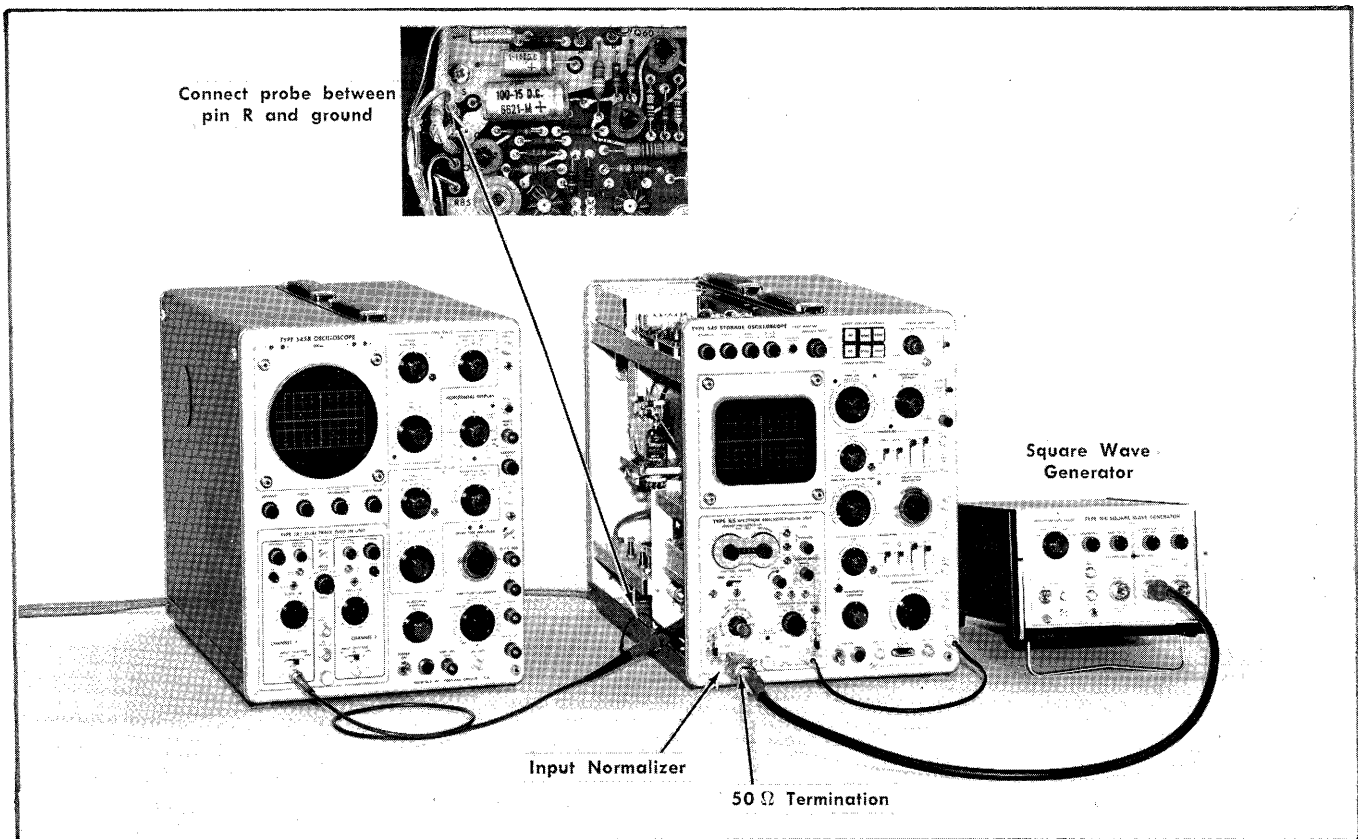

Fig. 6-16. Equipment setup for attenuator (VOLTS/CM) compensation adjustments.
①
- a. Equipment setup is shown in Fig. 6-16.
- b. Connect a properly compensated 10× probe from the test oscilloscope, between pin R and ground of the Input Amplifier board. See Fig. 6-16.